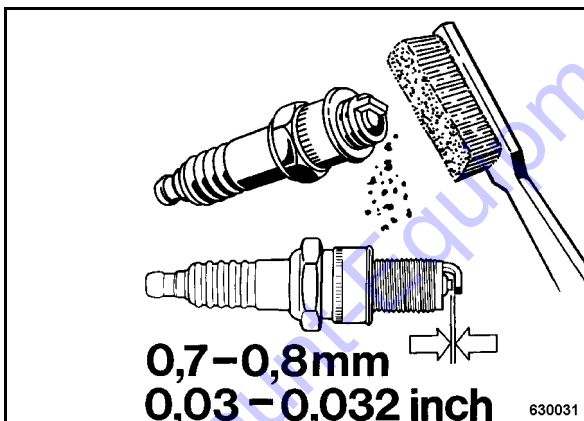

Fig. 38
- Check the spark plug visually and clean it if necessary (Fig. 38).